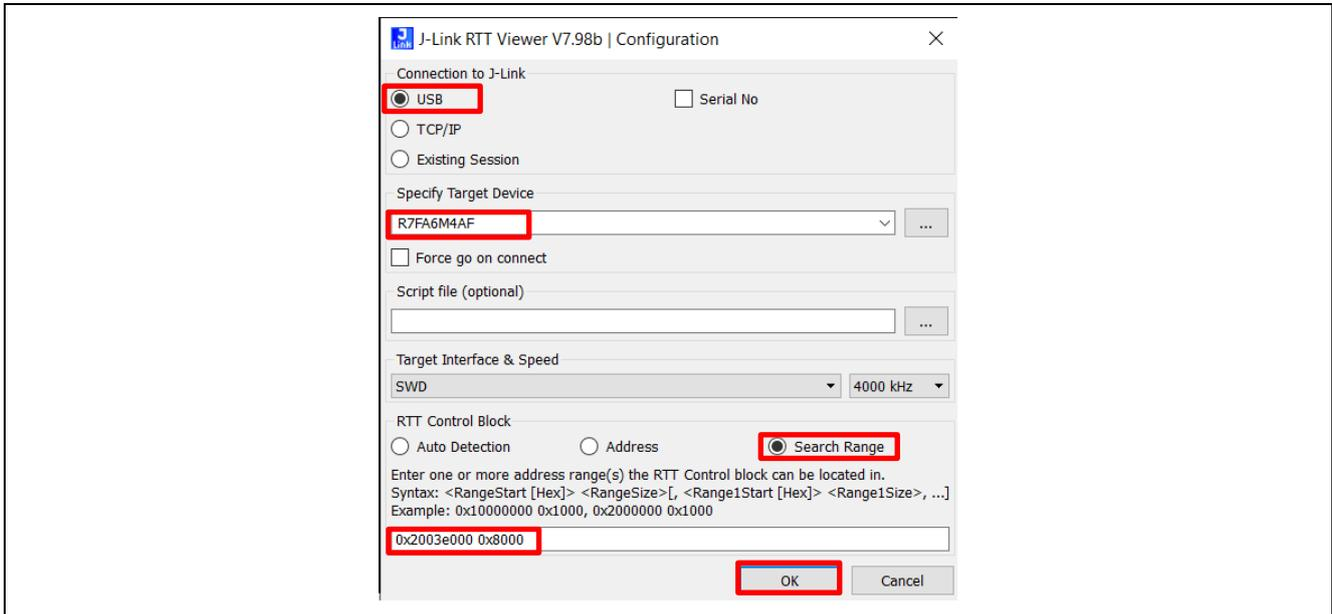

Figure 17. Configure the RTT Viewer
6. Open the J-Link RTT Viewer and set up the same configuration as Figure 17.
6. Open the J-Link RTT Viewer and set up configuration similar as Figure 17 except change the search range to `0x20000000 0x8000`.
4. Confirm the same configuration as shown in Figure 17, then click **OK**.